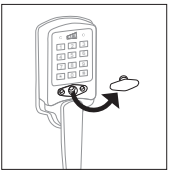

Figure 1
1. Remove override access rubber lock cover (Figure 1).